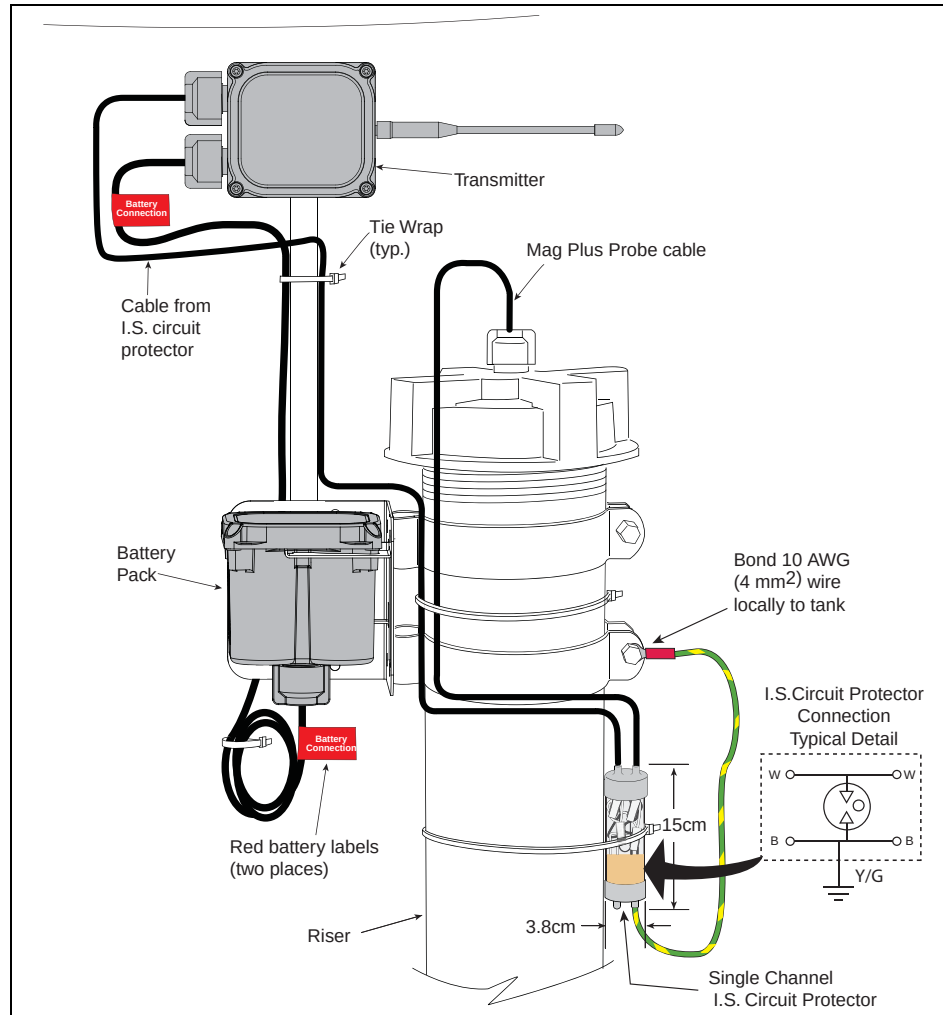

Figure 15. Example Wireless Mag Plus Probe Installation With Single-Channel I.S. Circuit Protector
An example wireless Mag Plus probe installation is shown in Figure 15. Mount the I.S. circuit protector as close as possible to the entry point for the probe leader cable.
8. Connect the green/yellow ground wire from the I.S. circuit protector to an appropriate tank ground (see Figure 15). In non-conductive tank installations, connect the green/yellow ground wire from the I.S. circuit protector to a grounding rod as per the local authority.